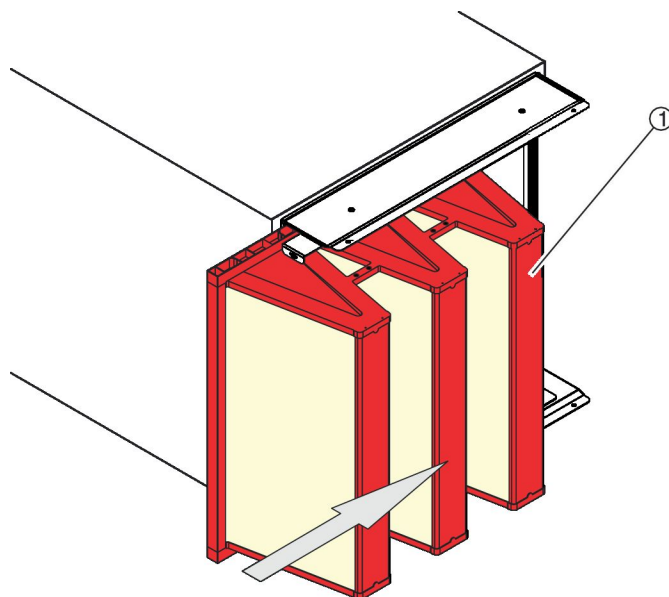

Fig. 64: Replacing the filter
8. ▶ Insert the filter ( Fig. 64 /1) and slide it into the intended position.